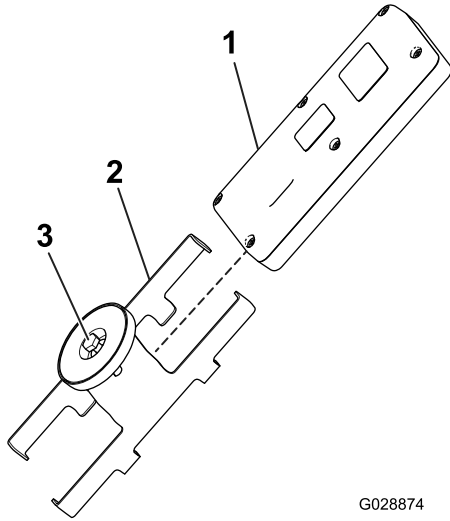

Figure 14
5. Install the handheld remote into the magnetic remote bracket, slide the halves together to secure the remote, and tighten the bolt in the magnet (Figure 14).